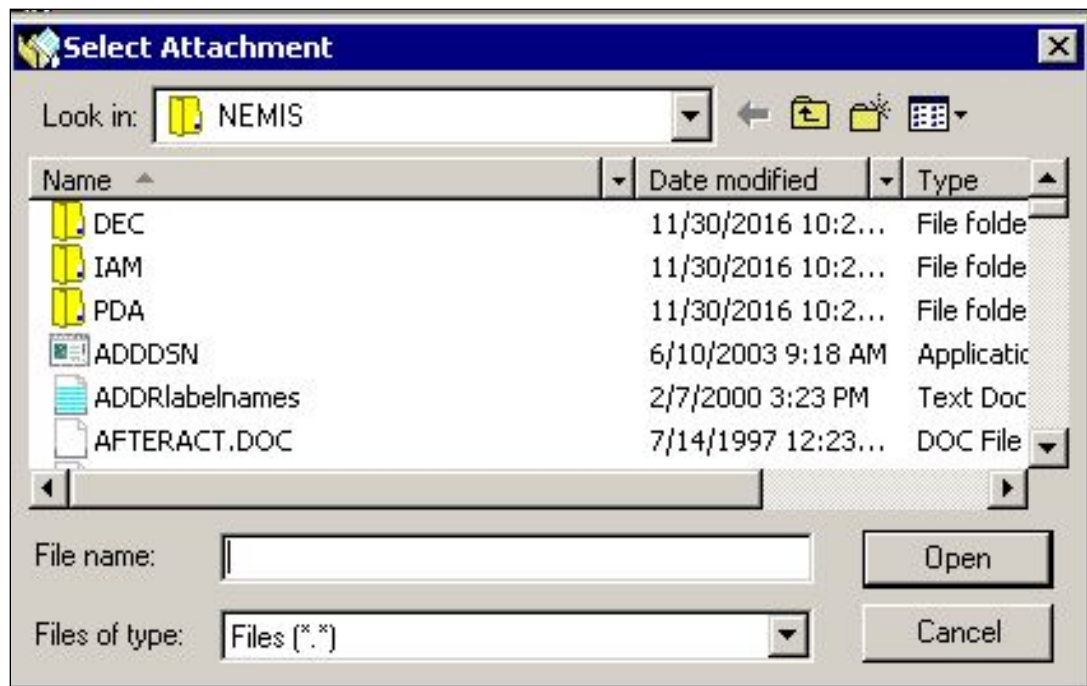

Figure A-4: Select Attachment Dialog Box with Selected File
6. Navigate to the file to be attached. Select the file (Figure A-4).